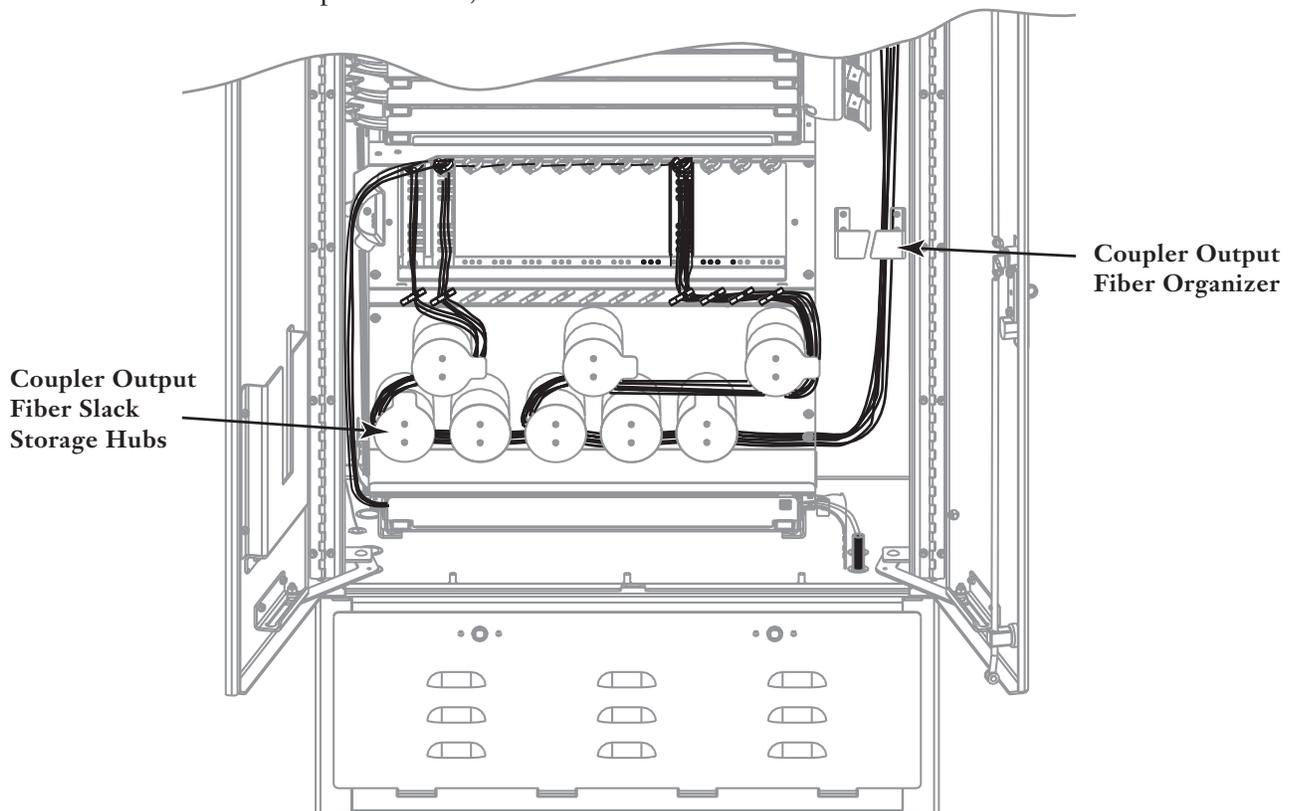

Figure 8 — Store Coupler Output Fiber Slack
- Step 1** If a coupler output fiber is not to be connected at this time, route the fiber slack around the slack storage hubs in the slack storage area as shown in Figure 8. All fibers exit the slack storage area to the right.